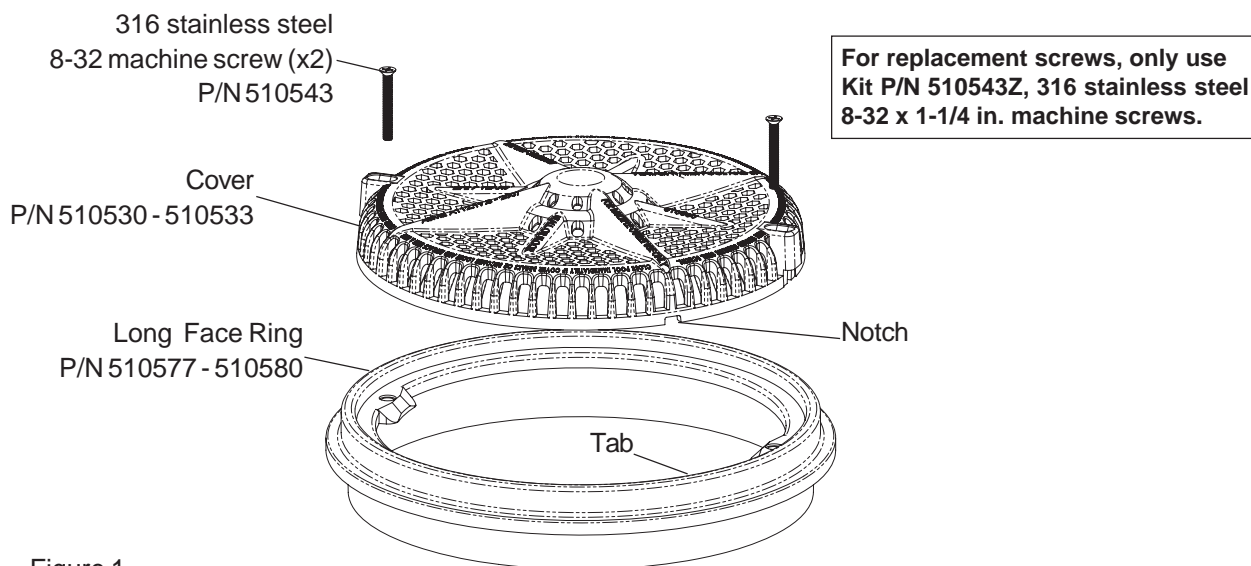

Figure 1
3. Mount the drain cover on top of the face ring/suction outlet (see Figure 1).
5. Install the two (2) 316 stainless steel 8-32 machine screws (provided) into the holes in the top of the cover. Using a No. 2 Philips head screwdriver, tighten each retaining screw to a **torque value of 10.00 (minimum) to 15.0 (maximum) in/lbs** to secure the cover. DO NOT OVER TIGHTEN THE SCREWS. DO NOT ASSEMBLE WITH POWER TOOLS.